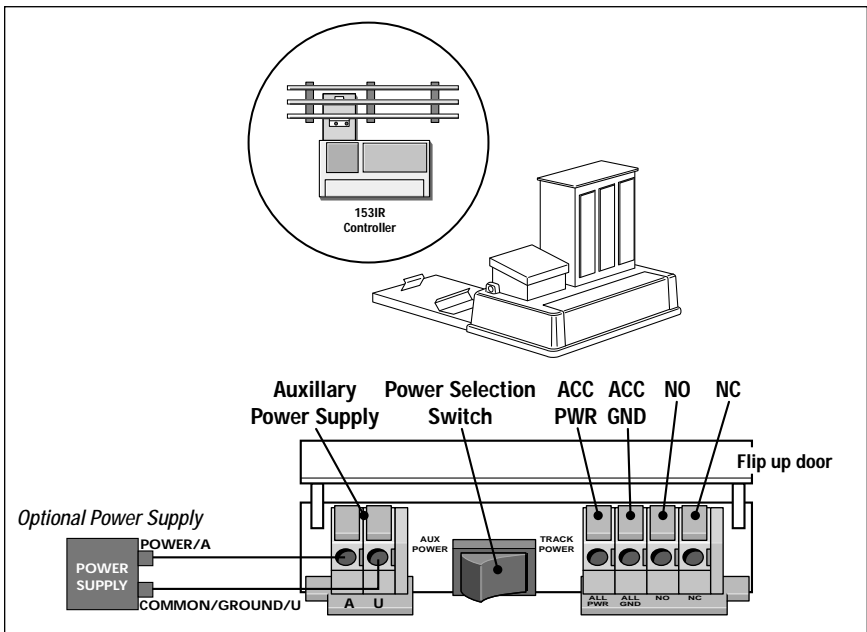

Figure 1. Lock-On attachment and switch location
- 1. To attach the 153IR Controller to the track, slide the bottom edge of the outside rail into the metal lip on the power Lock-On, then press the clip at the end of the Lock-On over the bottom edge of the inside rail. Refer to Figure 1.**
1. To attach the 153IR Controller to the track, slide bottom edge of the outside rail into the metal lip on the power Lock-On, then press the clip at the end of the Lock-On over the bottom edge of the inside rail. Refer to Figure 1.
5. Set the rocker switch to the **AUX POWER** position. Figure 1 illustrates the location of this switch